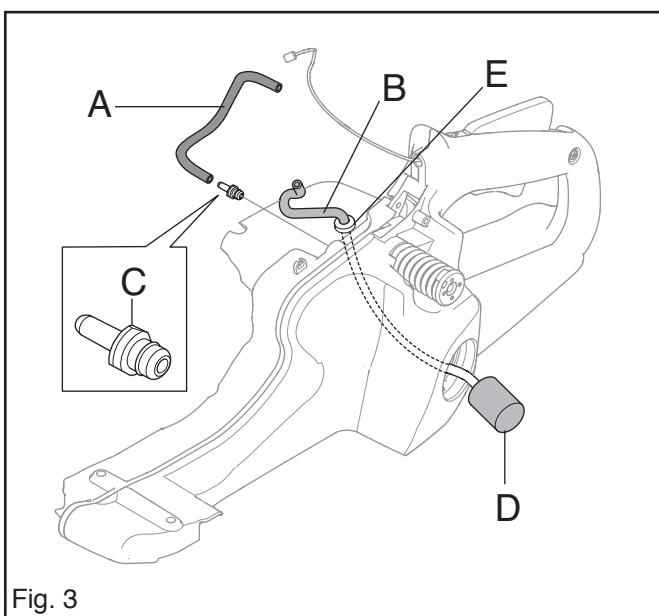

Fig. 3
7. If necessary, lift out the fuel pipe and pull off the fuel filter (D).
Use a pair of pliers with smooth jaws and pull up the hose's bushing (E). Se fig.3.